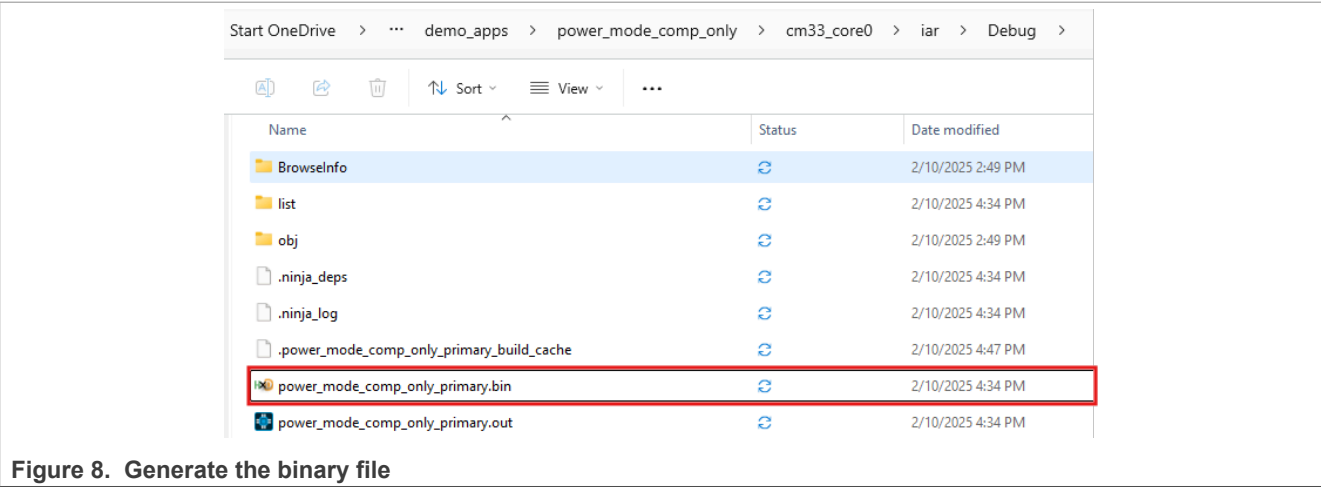

Figure 8. Generate the binary file
- 11. Compile to generate the binary file **power_mode_comp_only_primary.bin**. Figure 8 shows the binary file.